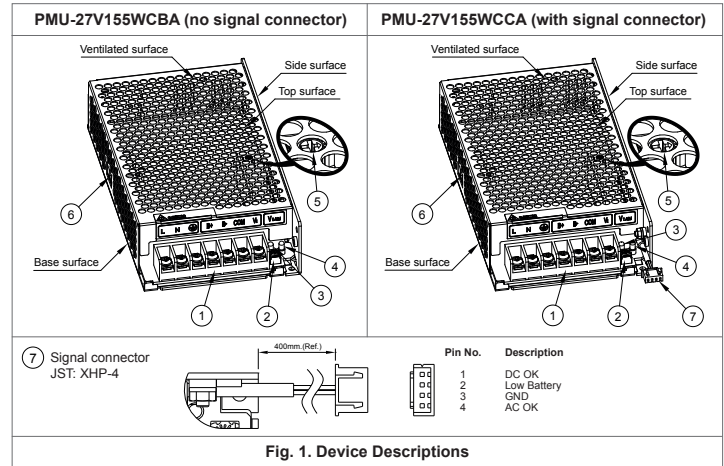

Fig. 1. Device Descriptions
- Must select correct AC input voltage range through selectable switch before turning on (Refer to Fig. 1. (6)).
Refer to Fig. 1.:
- ① Input & Output terminal block connector
- ② DC voltage adjustment potentiometer (24V - 28V)
- ③ Green LED ON = DC OK (Normal operation through mains supply or through battery when operating in buffering mode)
- ④ Red LED ON = Battery reverse polarity
- ⑤ Battery charging current adjustment potentiometer (Factory Setting: 1A)
*Max charging current shall not exceed 1.5A (Refer to Fig. 1, (5)).*
- ⑥ AC selectable switch
- ⑦ Signal connector - JST: XHP-4 (for PMU-27V155WCCA only)
- Must select correct AC input voltage range through selectable switch before turning on (Refer to Fig. 1, ⑥).
*Max charging current shall not exceed 1.2A (Refer to Fig. 1, ⑤).*
- ⑦ Signal connector - JST: XHP-4 (for PMU-27V155WLCA only)